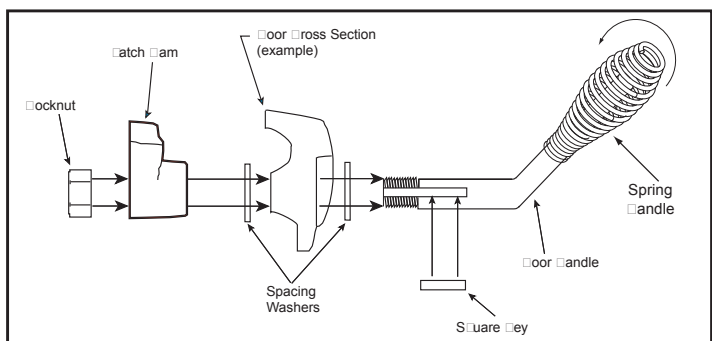

Figure 20.3
3. Install second washer(s) as shown in **Figure 20.3.**
7. Install spring handle turning in a counter-clockwise motion to desired location on door handle rod. **Figure 20.3.**